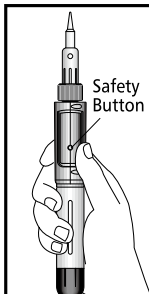
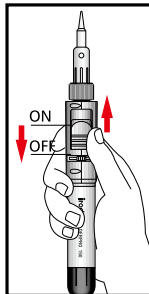

Fig.4
Fig.5
2. While pushing in and holding the **SAFETY BUTTON** (Fig. 4) **Slowly** slide up the **ON/OFF Ignition Switch** (Fig. 5) to the "**ON**" position to start the flow of gas.